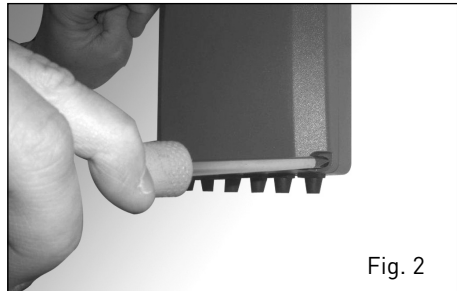

Fig. 2
- remove the control unit cover by loosening the four screws on the front (fig. 2).